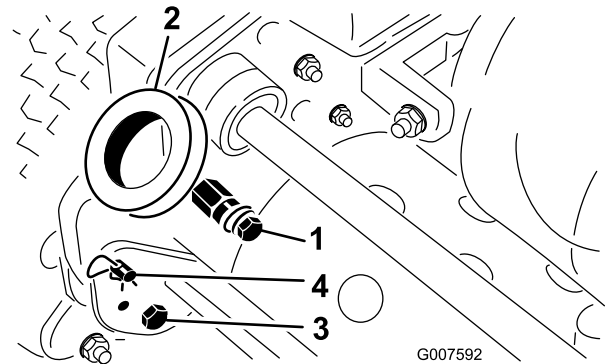

Figure 2
1. Remove the bolts and locknuts securing the bottom of the handle arms to each side of the mower (Figure 2).
2. Remove the hairpin cotters and ring pins securing the handle arms to the rear of the frame (Figure 2).
3. Insert the handle ends through the holes in the handle arms and align the holes with the mounting pins (Figure 2).
1. Remove the hairpin cotters from the ring pins on each side of the mower (Figure 2).
2. While supporting the handle, remove the ring pins from each side and raise or lower the handle to the desired operating position (Figure 2).